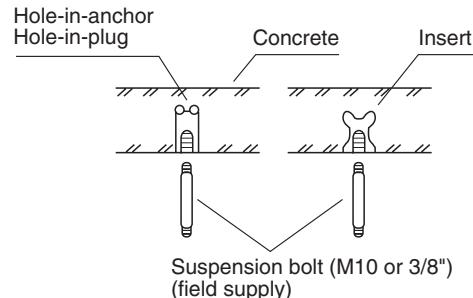

Fig. 1-12
- (1) Fix the suspension bolts securely in the ceiling using the method shown in the diagrams (Figs. 1-12 and 1-13), by attaching them to the ceiling support structure, or by any other method that ensures that the unit will be securely and safely suspended.